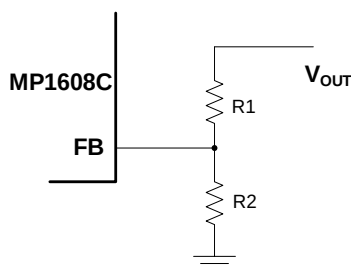

Figure 3: Feedback Network
The external resistor divider sets the output voltage (see Figure 3). Select the feedback resistor (R1, typically between 100kΩ and 200kΩ) that reduces the V_{OUT} leakage current. There is no strict requirement on the feedback resistor. Select R1 to exceed 10kΩ. R2 can then be estimated with Equation (2):